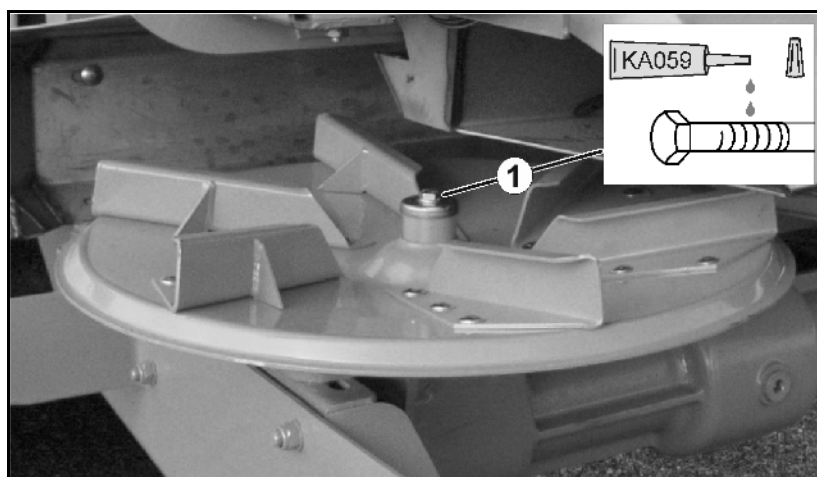

Fig. 109
1. Remove the M10 hexagonal bolt (Fig. 109/1).